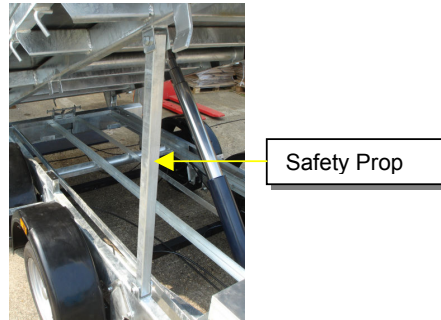

Fig. 1 Safety Prop in place when bed in raised position
- Carry out any activity that involves working under your trailer in the raised position. Always ensure the safety prop is secured in place when the trailer is in the raised position. See Fig. 1